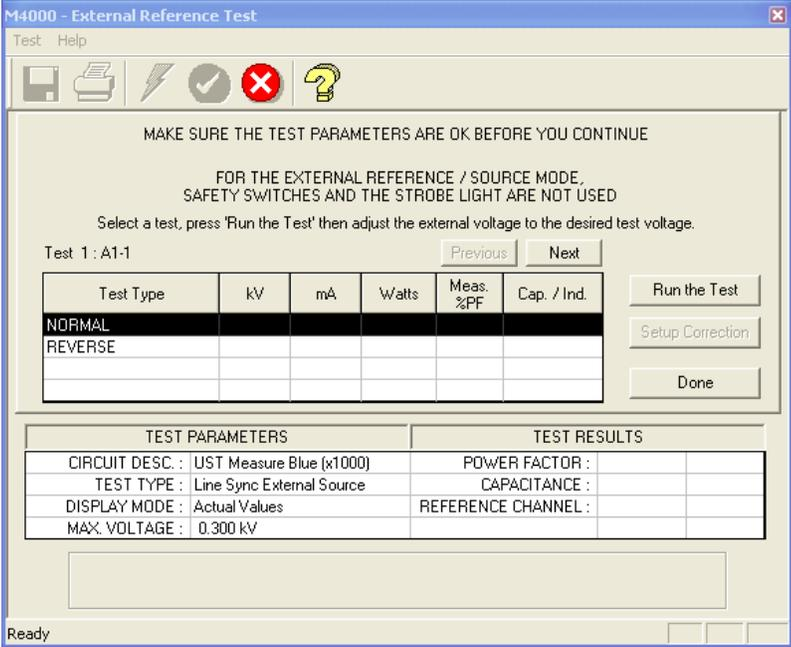
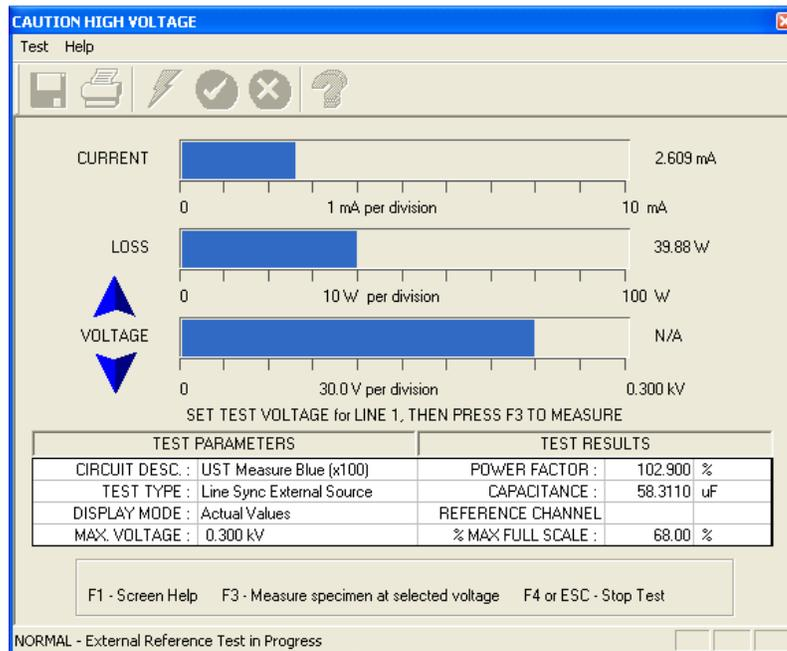

Figure 12. External Reference Test Dialog Box
Figure 14. Test-in-Progress Dialog Box
2. Press F2, click the Single Test (lightning bolt) icon, or select Test > Run The Tests. The External Reference Test dialog box appears (Figure 12).
4. The Test-In-Progress dialog box appears (Figure 14), with the message SET TEST VOLTAGE for LINE (x), where (x) is the selected line number.
Capacitance in the Test Results column of Figure 12 or Figure 14 becomes Inductance when the current probe or Voltage Sense lead polarity does not agree with the source polarity. Reverse the current probe or VS lead to correct the polarity. Abnormally low capacitance can also be caused by current-probe jaws that are not fully closed.